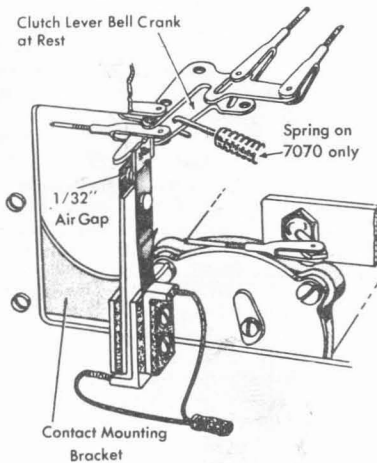

Figure 81. Carriage-Return-Interlock Contact
1. Position the contact mounting bracket so that the contact points are held open $\frac{1}{32}$ " when the lower clutch-lever bell crank is in its rest position (Figure 81).